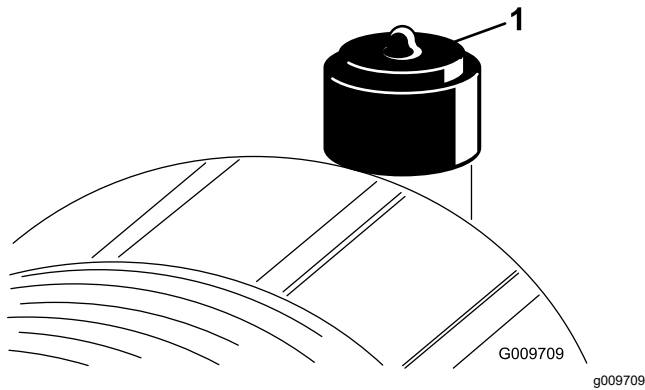

Figure 46
Service the air-cleaner filter only when the service indicator (Figure 46) requires it. Changing the air filter before it is necessary only increases the chance of dirt entering the engine when you remove the filter.
2. Reset the indicator (Figure 46) if it shows red.